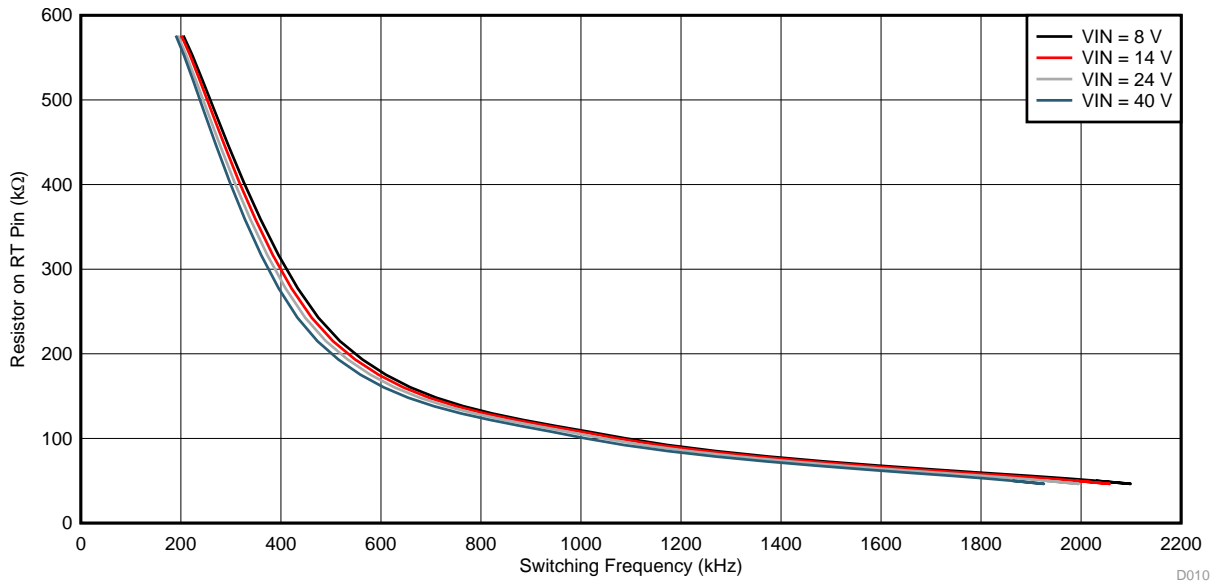

Figure 10. Switching Frequency vs Resistor Value
The oscillator frequency can be set by connecting an external resistor (R8 in Functional Block Diagram) to RT pin (pin 6). Figure 10 shows the relation between the resistor value (RT) and switching frequency (f_{sw}). The switching frequency can be set in the range 200 kHz to 2200 kHz. In addition, the switching frequency can be imposed externally by a clock signal (f_{ext}) at the SYNC pin.
Knowing the switching frequency, the value of resistor to be connected at RT pin can be calculated using the graph shown in Figure 10. Consider the oscillator tolerance ($\pm 10\%$) while selecting the external RT resistor. For example if $f_{sw} = 2.2$ MHz is required, select the RT resistor which corresponds to $f_{sw} = 2$ MHz in Figure 10 to allow +10% oscillator tolerance.